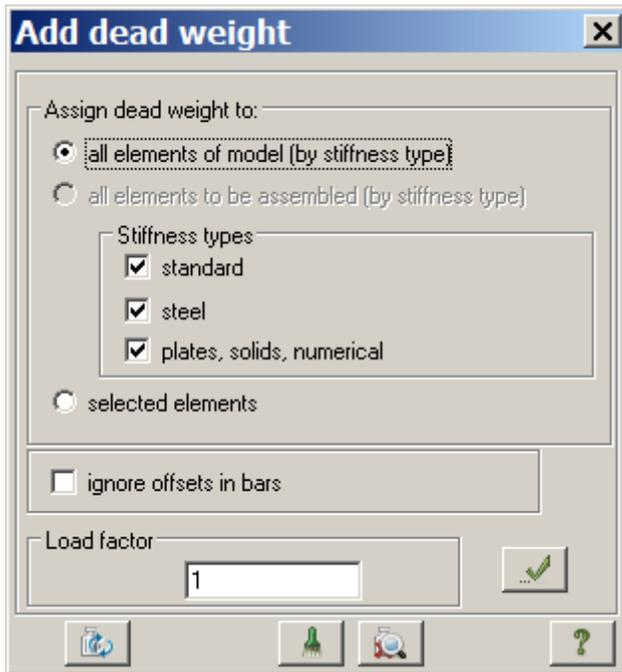

Figure 7.19 **Add dead weight** dialog box
- ⇒ In the **Add dead weight** dialog box (see Fig.7.19), click **All elements** and specify **Load factor** as equal to **1**. Then click **Apply**  (dead weight of elements is added automatically).